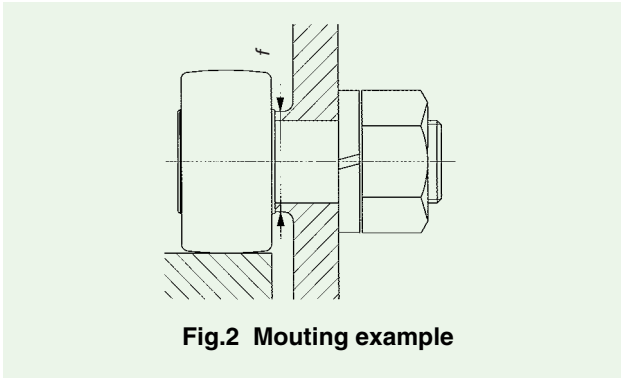

Fig.2 Mounting example
- 1 Make the center axis of mounting hole perpendicular to the moving direction of the Cam Follower and match the side shoulder of the Cam Follower accurately with the seating surface indicated by dimension "f" in the dimension tables (Refer to Fig.2.). Then fix the Cam Follower with the nut. DO NOT hit the flange head of Cam Follower directly by a hammer, etc. It may lead to bearing failures such as irregular rotation and crack.